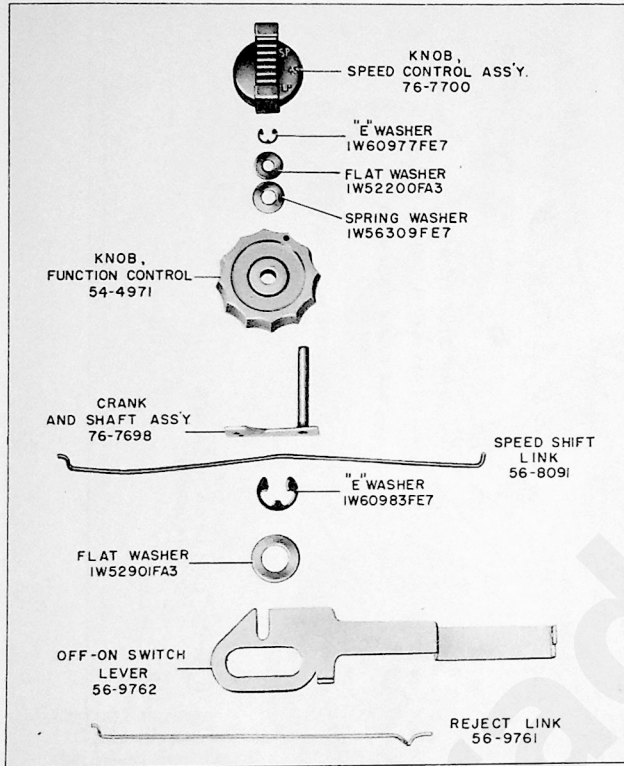

Figure 10. Control Assembly
13. Control Shaft and Links. Figure 10 shows the control assembly.